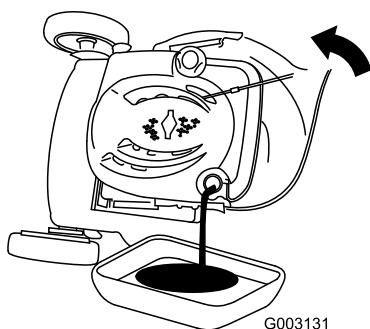

Figure 37
3. Tip the mower onto its side, with the air filter up, to drain the used oil out through the oil fill tube (Figure 37).